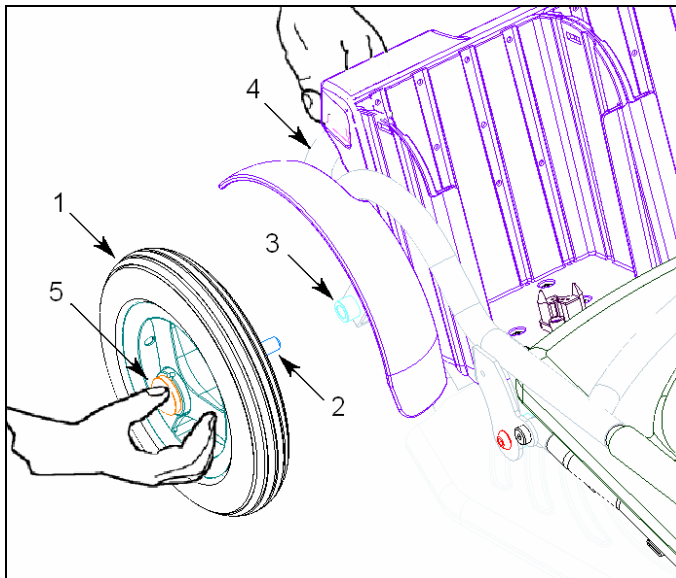

Figure 2
(See **figure 2**) The rear wheel (1) is assembled by means of a so called quick release axle (2) into the wheel mount (3) of the frame (4). In order to be able to assemble and disassemble the quick release axle you need to press the button underneath the rubber cover (5) in the centre of the wheel.
Take the rear wheel in your hand as shown in **figure 2**. Grip the wheel (1) with your fingers through the spokes and depress the button under the rubber cover (5) at the centre of the wheel with your thumb. Lift the frame (4) using your other hand and fully insert the quick release axle (2) into the Wheel mount (3) of the frame, release the button. Check if the quick release axle is locked by pulling on the wheel.